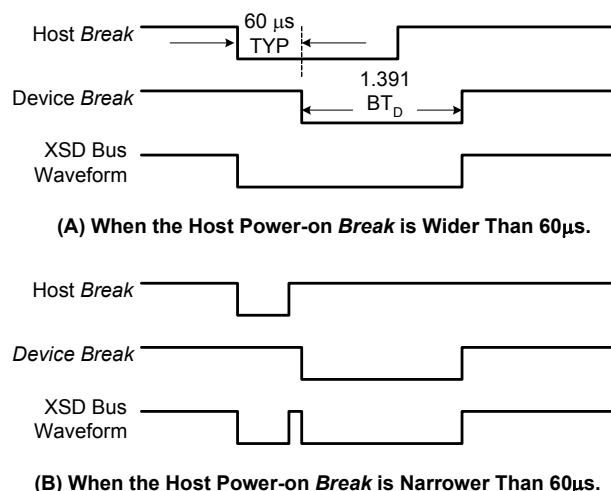

FIGURE 4. POWER-ON BREAK SIGNAL TO WAKE-UP THE ISL6296 FROM SLEEP MODE
Note that the ISL6296 will initiate the power-on sequence without waiting for the power-on 'break' signal to return to the high state. If the host sends an initial 'break' pulse wider than 60μs, the device-ready 'break' returned by the ISL6296 will likely be merged with the pulse sent by the host and, therefore, may not be detectable. Figure 4 illustrates the waveforms during the Power-on Reset. Figure 4 (A) is for the case that the power-on 'break' rising edge occurs after the device starts to sending the 'break'. Figure 4 (B) shows the case that the power-on 'break' finishes before the device sending its 'break'. The device break signal is always 1.391 times of the device bit-time (BT, see XSD Bus Interface section for more details). Either case in Figure 4 will wake up the device successfully if the device is in the sleep mode.